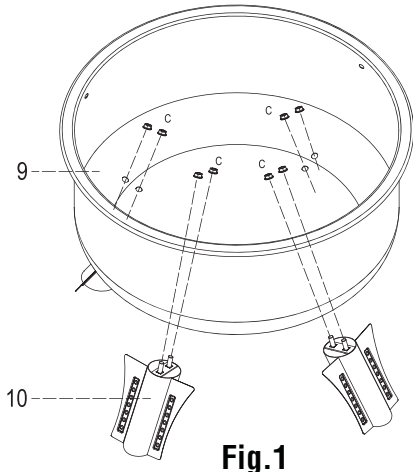

Fig.1
Assemble each Leg using two M8 Nut(C) and tight it with M8 Wrench(F). DO NOT cross threaded. See Fig.1